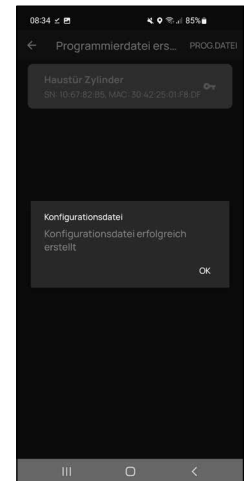

Fig. 4
- 5 After a short moment, a message appears informing you that your programming file has been created. Confirm with "OK" (Fig. 4).